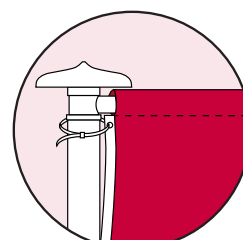

Fig 5a,
- 6, Secure plastic ties through the eyelets and around the pole. DO NOT OVER-TIGHTEN (see fig5a).